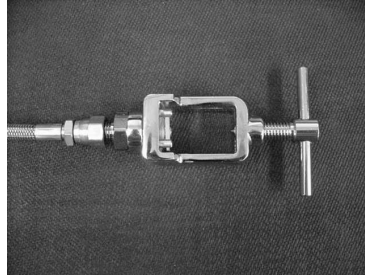
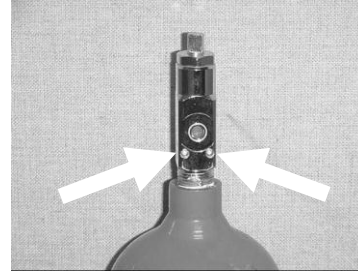

Figure 9.1
Figure 9.2
1. If not already connected, assemble the High Pressure Hose and Yoke using a 9/16" open-ended wrench on the hose fitting and a 3/4" open-ended wrench on the yoke's hexagonal shaped surface. The complete Hose-Yoke assembly is shown in Figure 9.1. Identify the post valve yoke positioning holes on the CO₂ supply tank (tank not provided with system), as shown in Figure 9.2.